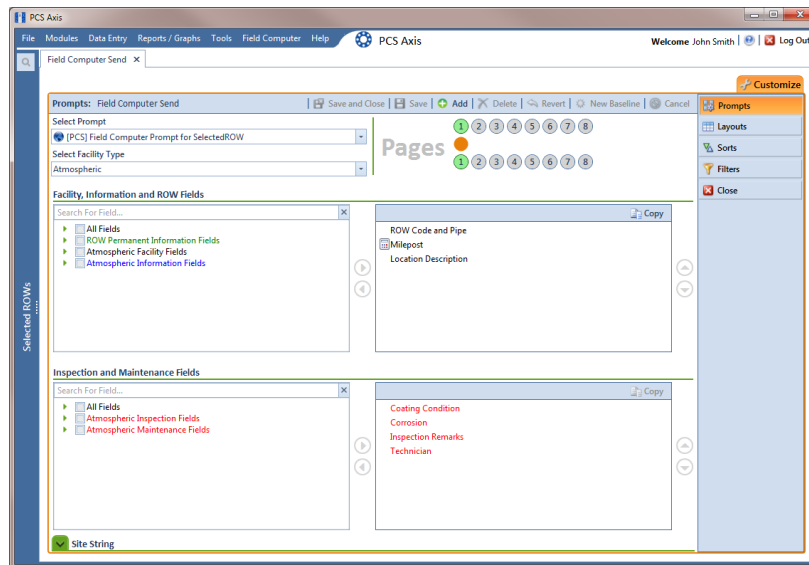

Figure 8-24. Prompts
- 4 Click the **Customize** tab , then the **Prompts** button  to open the *Prompts* page (Figure 8-24).